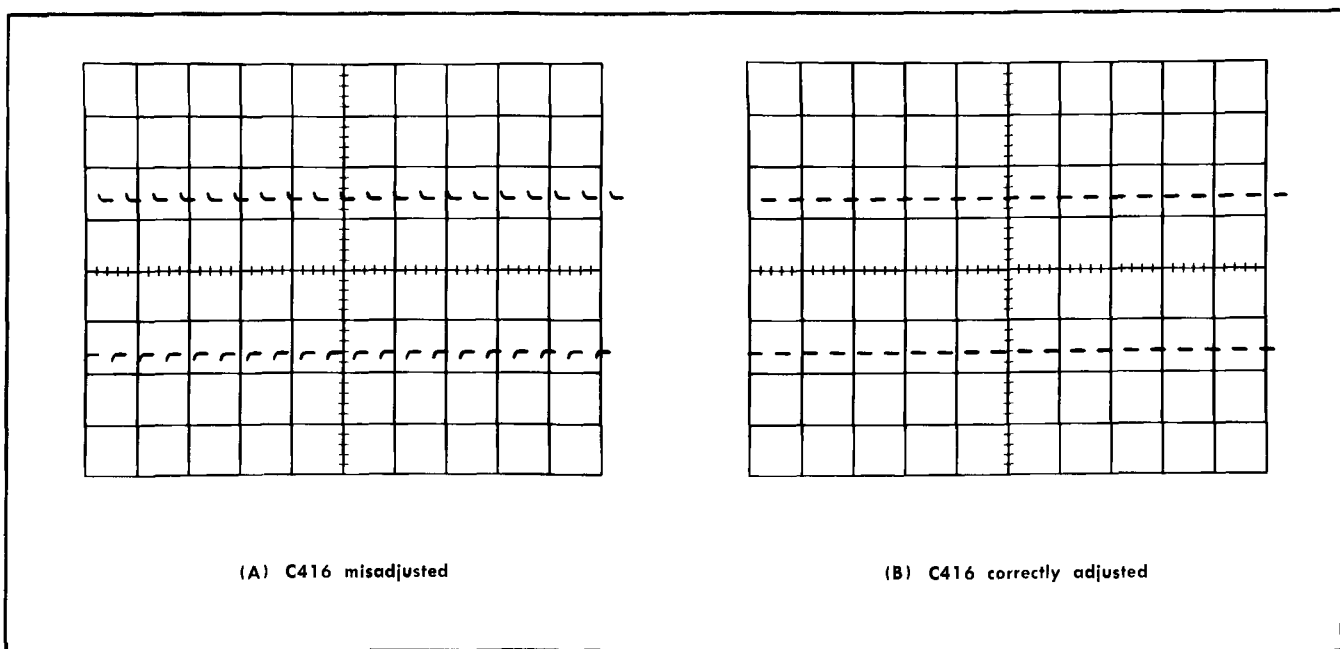

Fig. 6-17. Typical displays, Vertical Amplifier attenuator compensation adjustments; 1 kHz square-wave input; sweep speed, 0.1 milliseconds/cm.
- m. Adjust C415C for optimum front corner waveform. A typical display of fast time-constant adjustment is shown in Fig. 6-17.